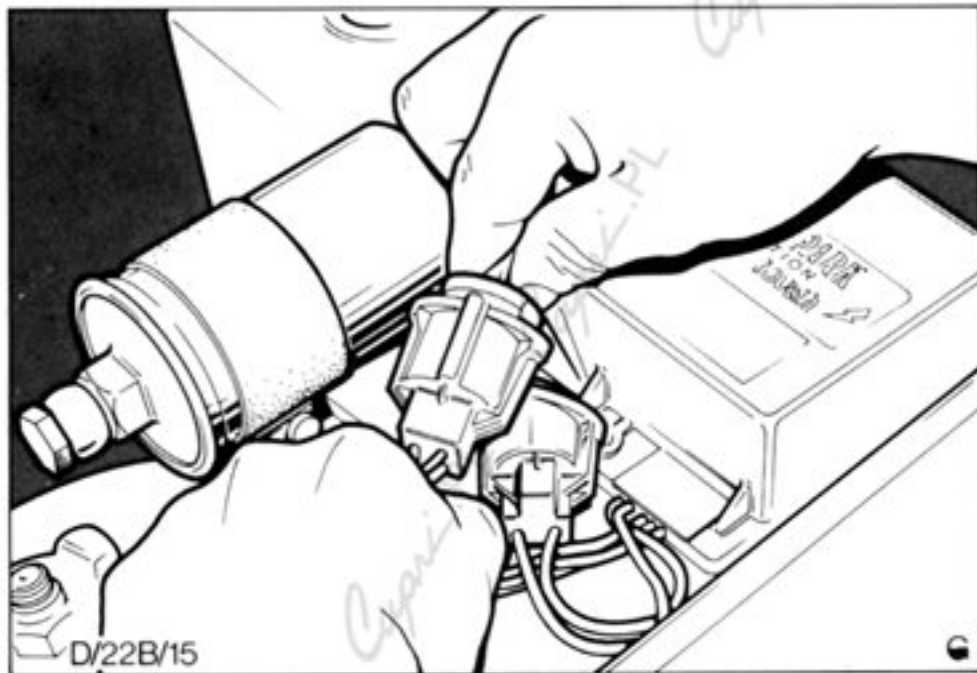

Fig.48. Disconnecting module loom multi-plug.
3. Disconnect two loom multi-plugs. To disconnect plugs, wires must be held. Refer Fig.48.